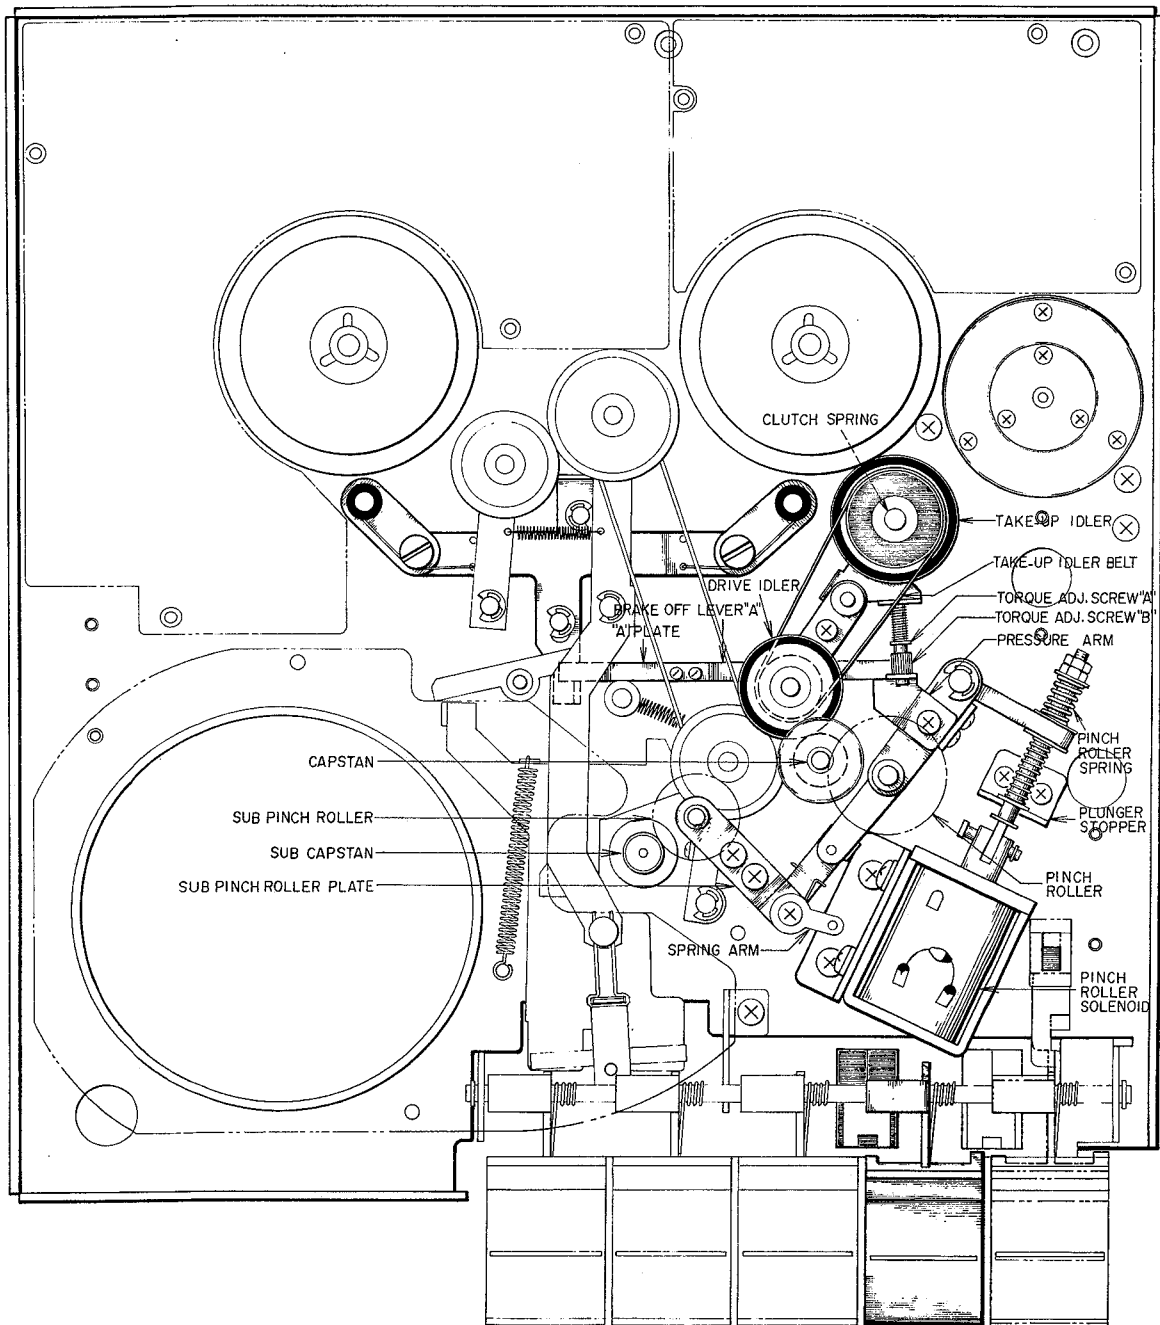

Fig. 1-29 Playback Mode
- b) As in Fig. 1-29, with a pair of pliers, hold torque adjustment screw "A" at fixed position, and with torque adjustment screw "B", make adjustment.
- d) At playback mode, change angle of spring arm and adjust sub pinch roller pressure (refer to spring arm shown in fig. 1-29).